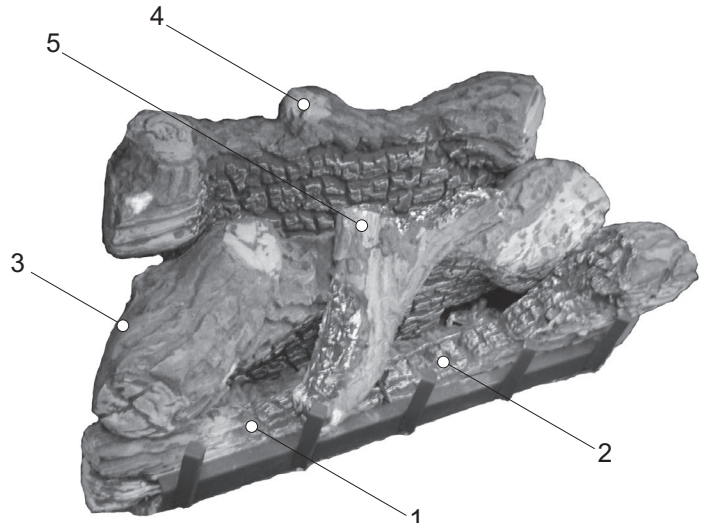
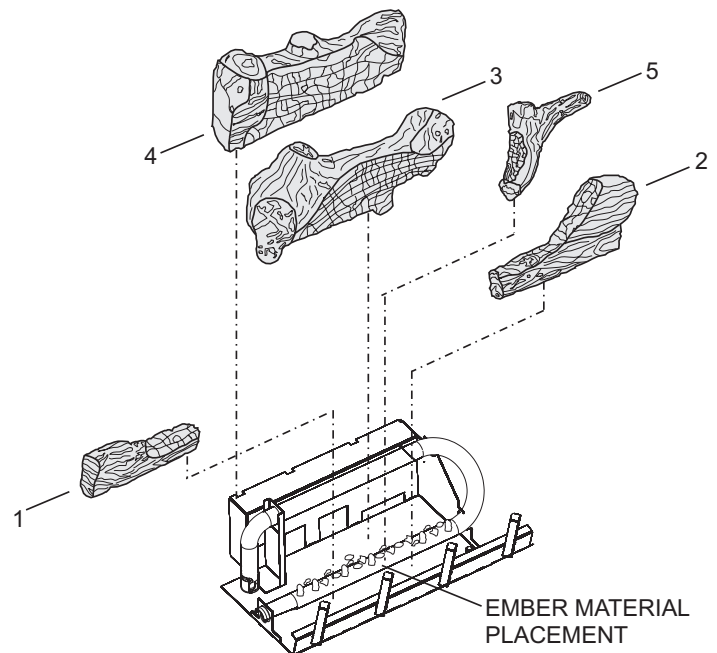

Figure 16
Figure 17
The positioning of the logs is critical to the safe and clean operation of this fireplace. Sooting and other problems may result if the logs are not properly and firmly positioned in the fireplace. Please refer to **Figure 16** and **Figure 17** and corresponding WARNING when completing following log placement instructions.
Attention: Do not use **Figure 16** or **Figure 17** to order logs. Refer to parts list on pages 32 and 34 and parts view on pages 33 and 35 to order logs and/or ember material for your appropriate fireplace model.
6. After all logs are positioned properly, apply Rockwool ember material to the front burner port area. To apply, carefully separate the ember material into small amounts no larger than "dime size" pieces. Fluffed up pieces one layer thick on top of the burner generally works best, and will provide the best ember glow. Do not place ember material more than one layer thick. No more than (1) small packet of ember material (part no. 15999) evenly placed on the burner, is recommended on BVD34 and BVD36 models. Using additional ember material will decrease the amount of ember glow effect. Extra ember material should be saved for future ember applications as necessary. **See Figure 17.**